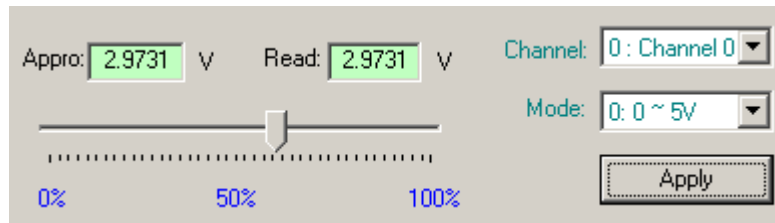

Figure 3.136
7) If the Mode option in Fig. 3.136 is selected, execute the following procedure:
If the Apply option in Fig. 3.136 is selected, execute the following procedure: